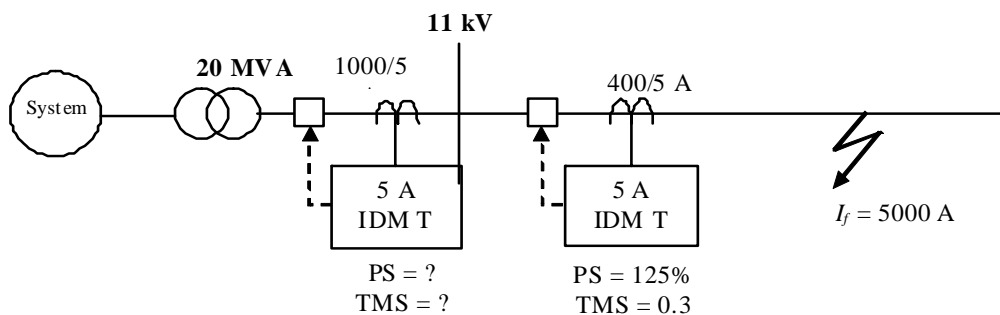

Fig. 4
A 20 MVA Transformer which is used to operate at 30% overload feeds an 11 kV busbar through a circuit breaker (CB) as shown in Fig. 4. The transformer CB is equipped with a 1000/5 CT and the feeder CB with 400/5 CT and both CTs feed IDMT relays having the following characteristics